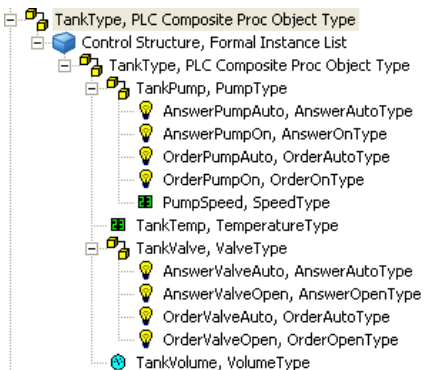

Figure 15. Finished TankType Object Type
- Expand the added object instances to view the finished *TankType* object type as shown in Figure 15.